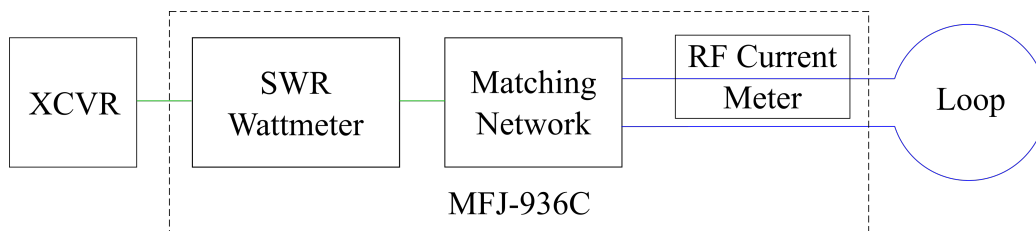

Figure 6: Typical MFJ-936C Configuration
Setting up the MFJ-936C *Deluxe High-Efficiency Magnetic Loop Tuner*[™] (Figure 6) is simple and consists of the following components:
Step 3 Setup the MFJ-936C *Deluxe High-Efficiency Magnetic Loop Tuner*[™] as illustrated in Figure 6.
Step 2 Setup the MFJ-936C *Deluxe High-Efficiency Magnetic Loop Tuner*[™] as illustrated in Figure 6.